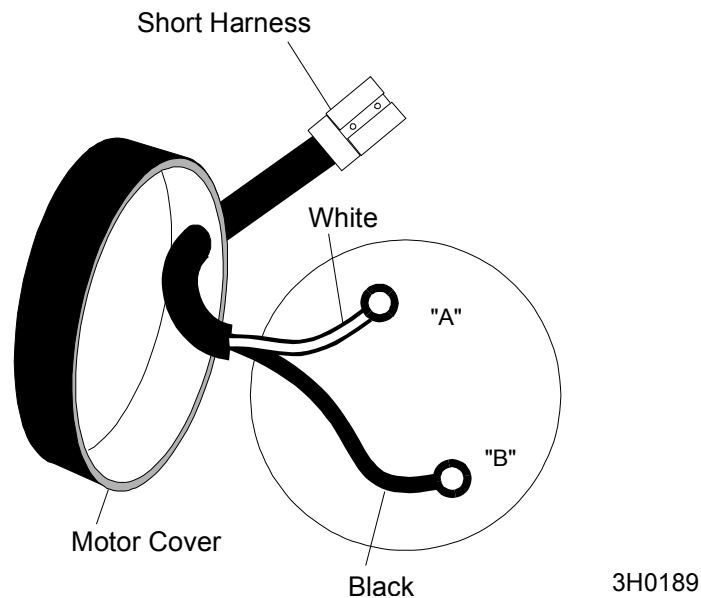

FIG. 1-11
See Figure 1-11.
2. Install the short male harness to the power feed motor. **See Figure 1-11.** Route the harness cable through the motor cover grommet. **NOTE:** A lubricant may be necessary to fit the harness through the grommet.